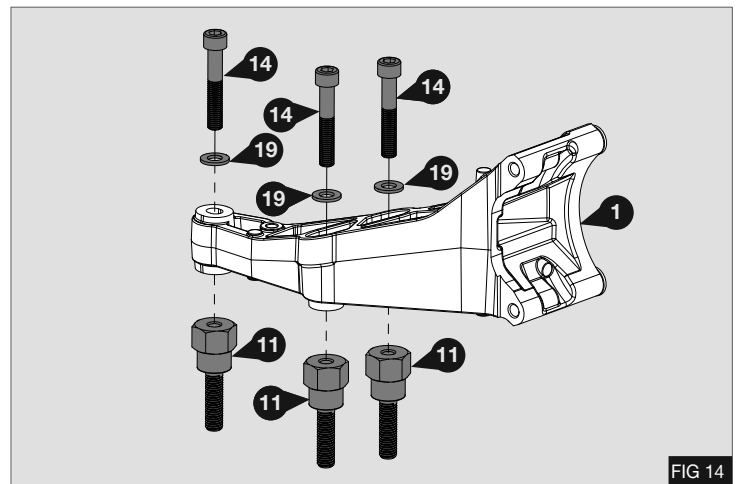

FIG 14
- Install the mount bracket (1) to the threaded pillars (11) using bolts (14) with washers (19). Tighten the 3x bolts hand tight so that they only allow side to side movement of the bracket (1) - Fig 14